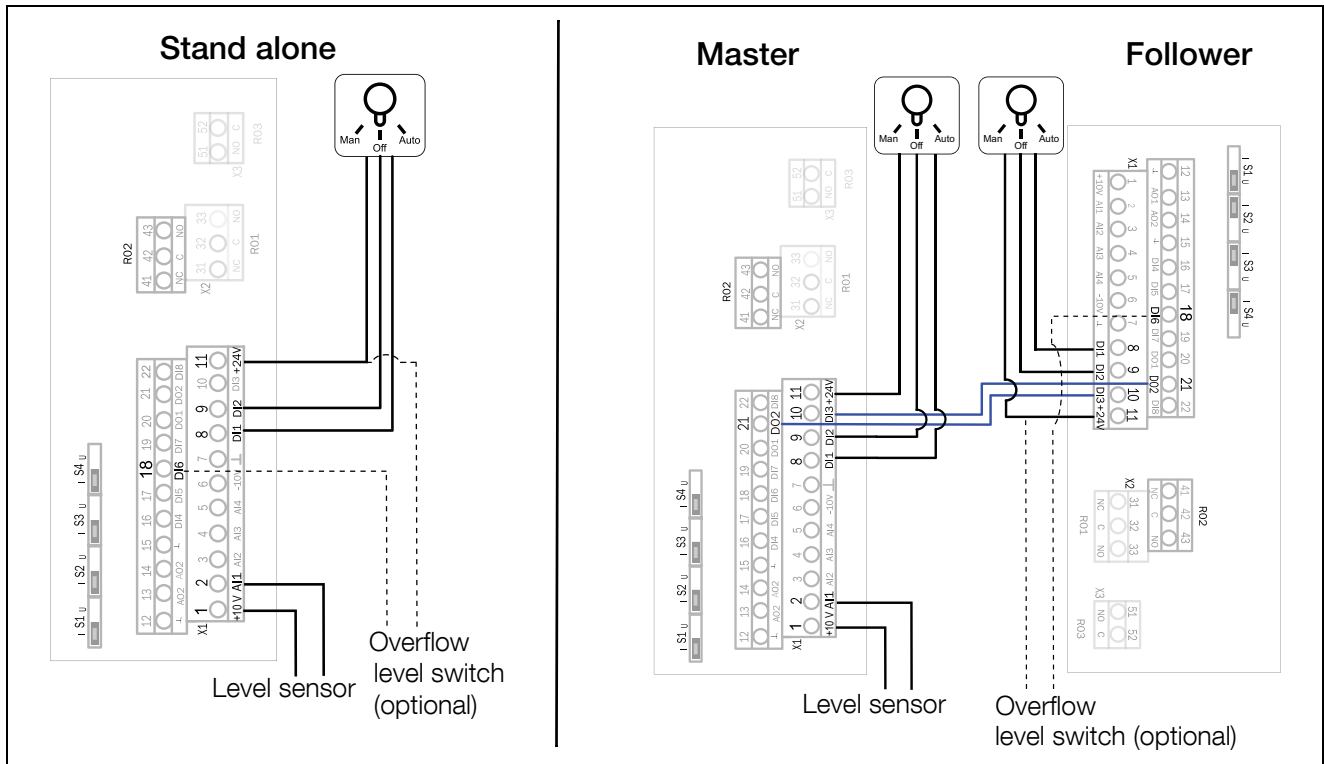

Fig. 38 General control I/O wiring.
1. Connect a level sensor between terminals 1 (+10 VDC) and 2 (AnIn 1) as in Fig. 38 The default setting for the AnIn1 is 4-20 mA. If the level sensor has a 0-10 V interface, change the position of switch (S1) on control board (chapter 4.3 page 35).
2. Connect an external Auto run switch between terminal 11 (+24 VDC) and 8 (DigIn1, Flow Auto) as in Fig. 38. Set the switch in the open position (digital input set to low state). (Do not activate the signal at this point.)
3. Connect an external Full speed switch between terminal 11 (+24 VDC) and 9 (DigIn2, Flow Run) as in Fig. 38. Set the switch in the open position (digital input set to low state). (Do not activate the signal at this point.)
4. Connect a communication cable between Master terminal 10 (DigIn3) and Follower terminal 21 (DigOut2) as in Fig. 38. (Only if Master/Follower).
5. Connect a communication cable between Master terminal 21 (DigOut2) and Follower terminal 10 (DigIn3) as in Fig. 38. (Only if Master/Follower).
6. Connect an overflow level switch (optional) between terminal 11 (+24 VDC) and 18 (DigIn6, Lvl Overflow) as in Fig. 38 Connect the signal to the Follower drive instead in a Master-Follower configuration for redundancy.